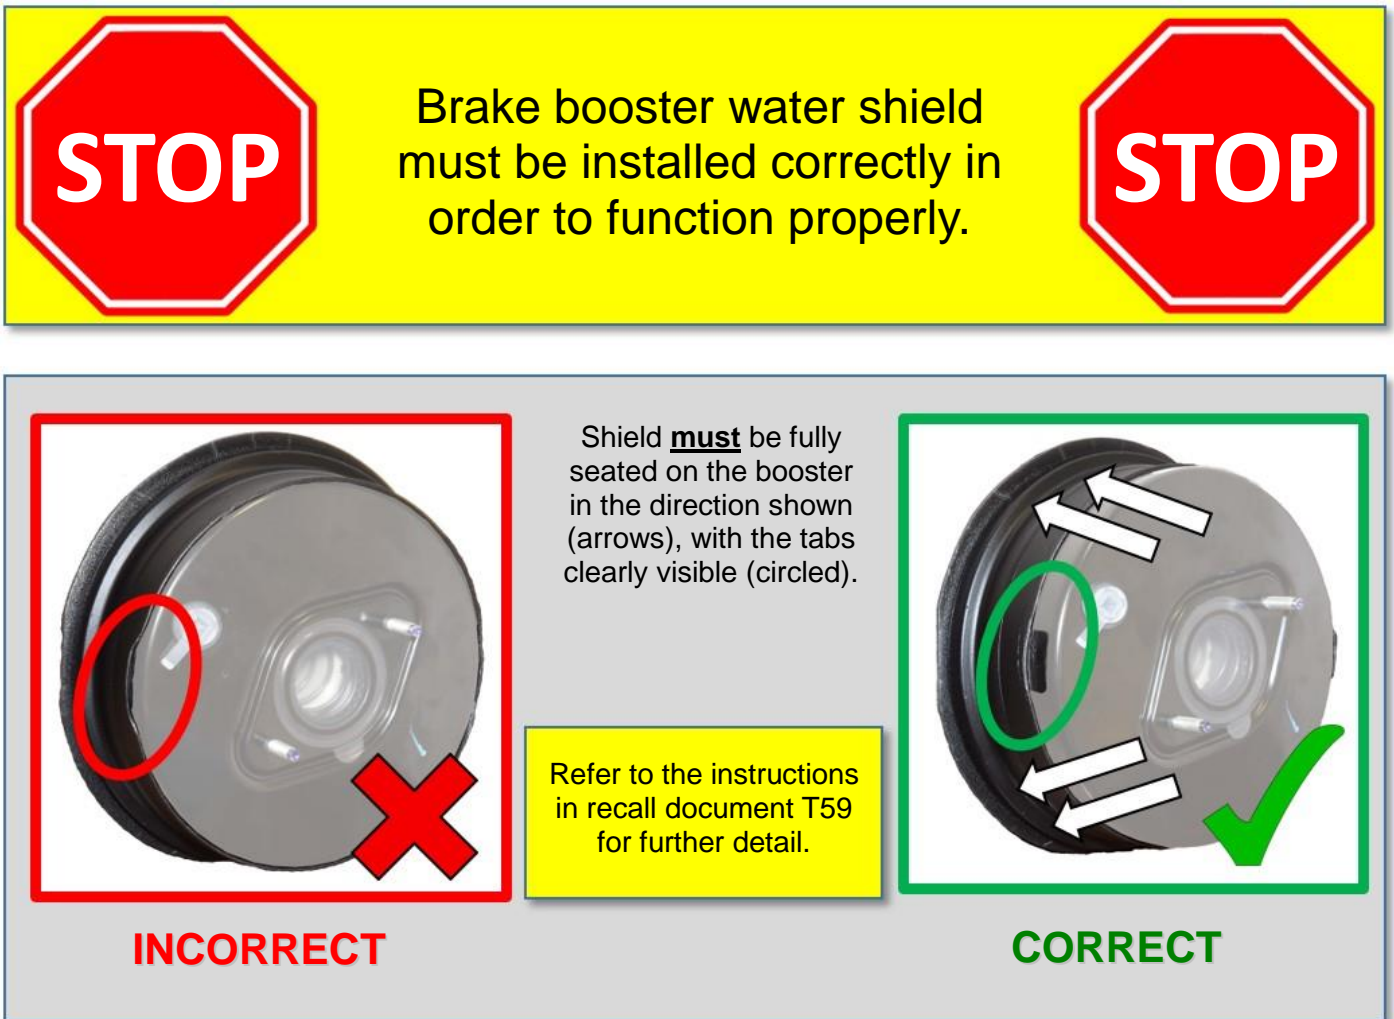

Figure 29 – Brake Booster Water Shield
21. Ensure the water shield is installed properly on the new brake booster prior to brake booster installation. If the water shield has shifted from proper position during shipping, reposition the shield back to proper position or replace the water shield if damaged during shipping (Figure 29).